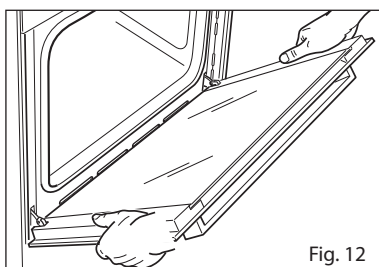

Fig. 12
- Hold the door as shown in fig. 12.